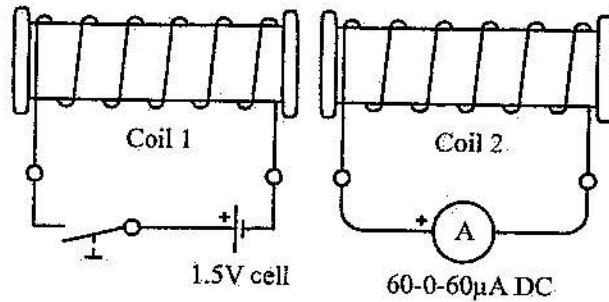

Figure 1
2. Connect the circuit as shown in figure 1. **Do not** insert an iron core.